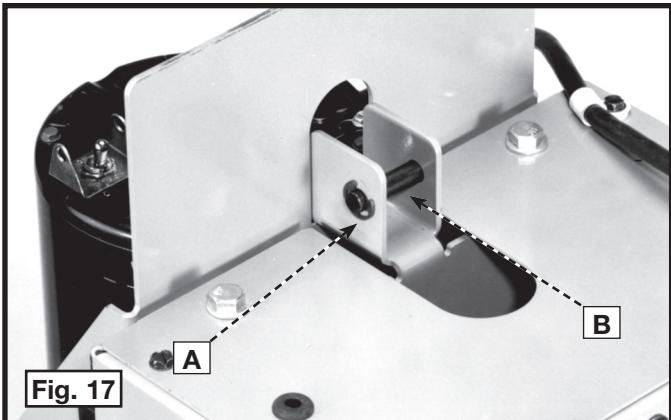

Fig. 17
1. Remove the retaining ring (A) Fig. 17 and remove the connecting pin (B).